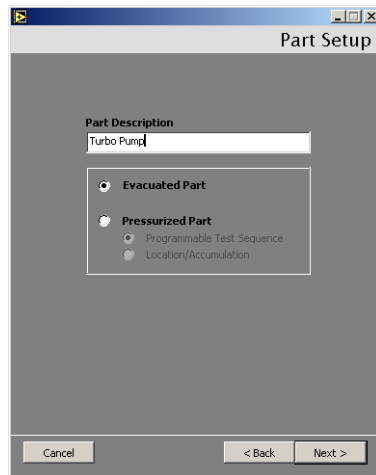

Figure 2-40 Part Setup
- ☐ **Edit Part** and Figure 2-40 appears from which you can change the configuration of the existing part. Proceed to step 6.